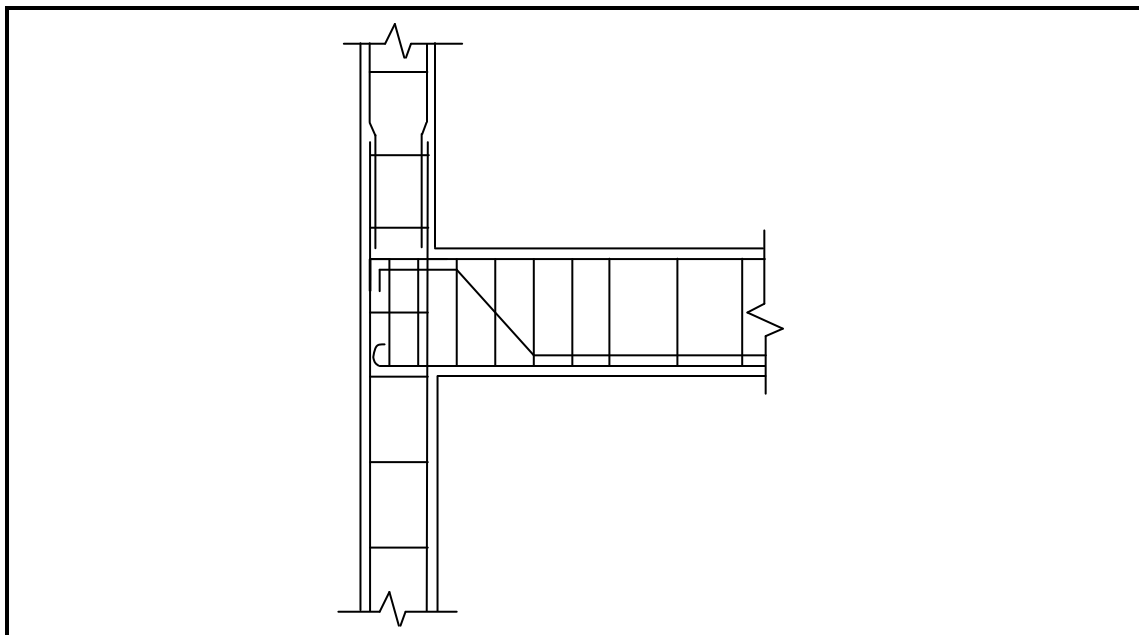

FIGURE 2.3
2.3 FIGURE 2.3 below shows a construction of the reinforcement of a beam and a column.